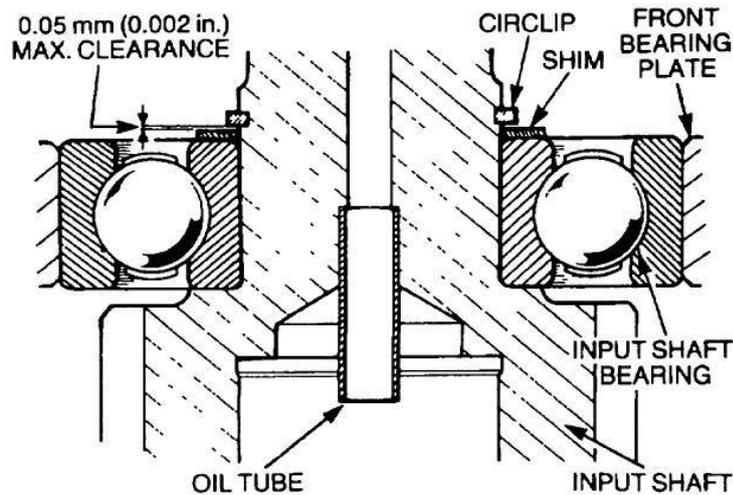

Figure 193 Installation of the Input Shaft
- jj. Using a suitable press, install the new input shaft bearing in the front bearing plate until the bearing is flush with the plate. Install the two bearing retaining plates with the studs towards the front of the transmission case. Press in the input shaft fully, install the shim and circlip, and measure the clearance between the circlip and the shim (Figure 193). The maximum clearance is 0.05 mm (0.002 in). To obtain the correct pre-load on the input shaft, replace the shim with one of the correct thickness.